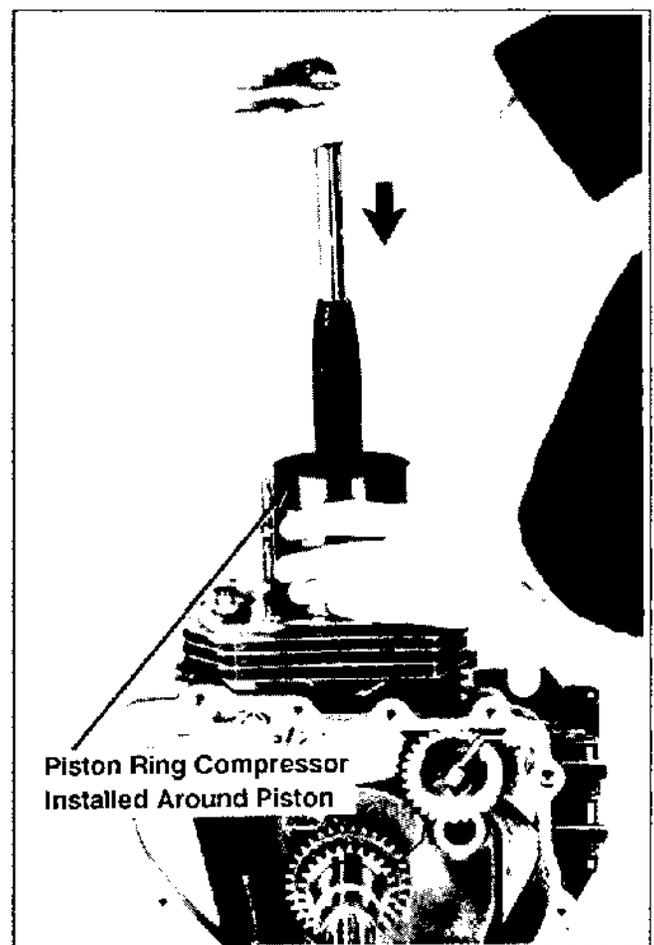

Figure 11-7. Installing Piston And Connecting Rod.
2. Lubricate the cylinder bore, piston, and rings with engine oil. Compress the piston rings using a piston ring compressor. See Figure 11-7.